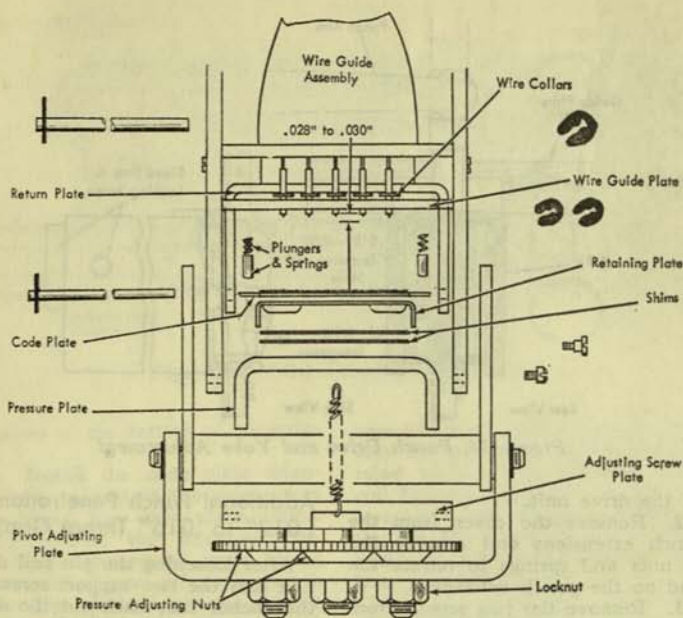

Figure 36. Code Plate Adjustment
1. Remove three horseshoe clips from one side of the unit (the two smallest clips and the one holding the print drive rod shaft). Pull out the three shafts that are freed (see Figure 36).
Printing Pressure Adjustment (Figure 36)
When replacing a wire guide assembly, it is necessary to remake the pressure adjustment and the code plate adjustment. Assemble the printing head, using Figure 36 as a guide. Install the vertical shift plate. Be sure the two lower pressure plungers and springs are in place.